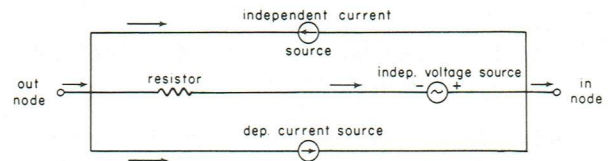

Figure 1
2. Number the circuit nodes from one to n where n is the number of nodes in the circuit. Node zero (0) is the reference node.
3. Number the branches from one to b , where b is the number of branches in the circuit. Each branch may include all or part of the generalized branch shown in Figure 1. A branch may also include more than one like parallel element such as several parallel resistors. An independent voltage source must include some kind of passive element in series with it within that total branch.